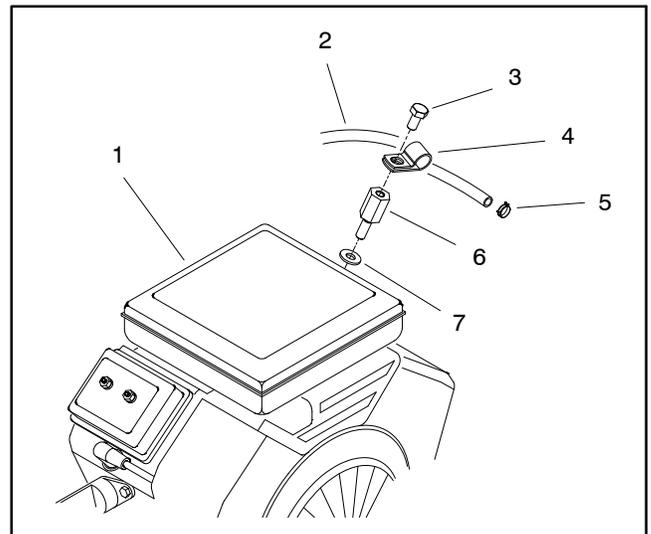
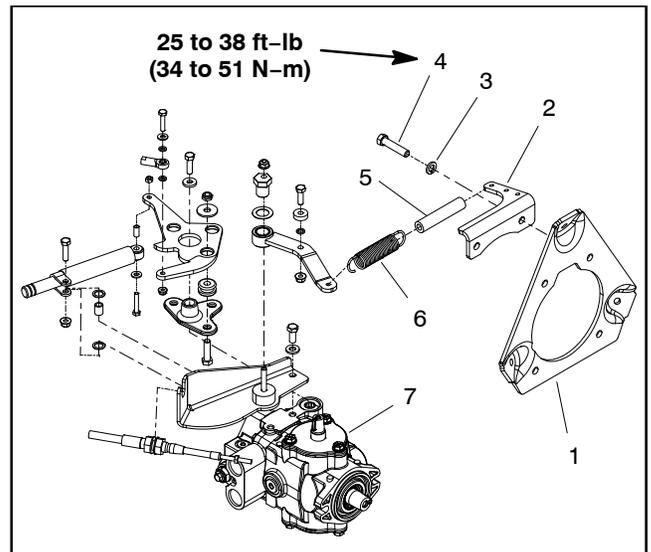

Figure 3
Figure 4
4. Remove the fuel hose support clamp and disconnect fuel hose at the fuel pump (Fig. 3). Drain any fuel trapped in the fuel filter and fuel hose into a suitable container.
6. Disconnect the engine wiring harness (item 29), the choke control cable, the throttle control cable and the ground wires (item 11) at the engine.
7. Carefully disconnect extension spring on piston pump control assembly from spring bracket that is attached to engine mount plate (Fig. 4).
8. Loosen the two (2) set screws (item 47) securing the engine hub (item 41) to the engine shaft.
9. Support the piston pump assembly and remove the two (2) cap screws (item 53), lock washers (item 52) and hardened washers (item 51) securing the pump to the pump adapter (item 19). **Do Not** disconnect the hydraulic hoses or neutral control linkage from the pump.
10. Support the engine assembly and remove the three (3) engine mount flange nuts (item 7), cap screws (item 1), flat washers (item 2) and spacers (item 3).
11. Carefully move the engine away from the piston pump until the crankshaft clears the engine hub. Remove the engine from the machine. Locate and retrieve key (item 48) from crankshaft.
3. Align the engine hub (item 41) with the engine shaft and key (item 48). Slide crankshaft into hub and move engine until the engine mount plate (item 21) is aligned with the three (3) engine mounts (item 24). Take care to not damage the rubber coupling (item 44) during engine installation.
4. Install the three (3) engine mount cap screws (item 1), flat washers (item 2), spacers (item 3) and flange nuts (item 7).
5. Position the piston pump assembly to the pump adapter (item 19) and secure with two (2) cap screws (item 53) lock washers (item 52) and hardened washers (item 51).
7. Apply Loctite #242 (or equivalent) to threads of engine hub set screws (item 47). Secure hub to crankshaft with two (2) set screws. Torque set screws from **90 to 110 in-lb (10.2 to 12.4 N-m)**.
8. Carefully connect extension spring on piston pump control assembly to spring bracket that is attached to engine mount plate (Fig. 4).
9. Connect the engine wiring harness (item 29) and ground wires (item 11) to the engine.